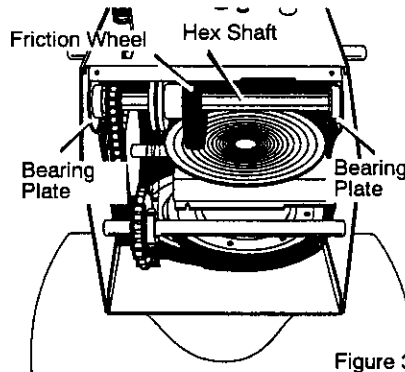

Figure 36
7. Remove the four bolts that hold the bearing plates on each side of the hex shaft. See Figure 36.
is engaged with both **bearing plates** and that the washers and retaining ring are installed in the original position. See Figure 36.